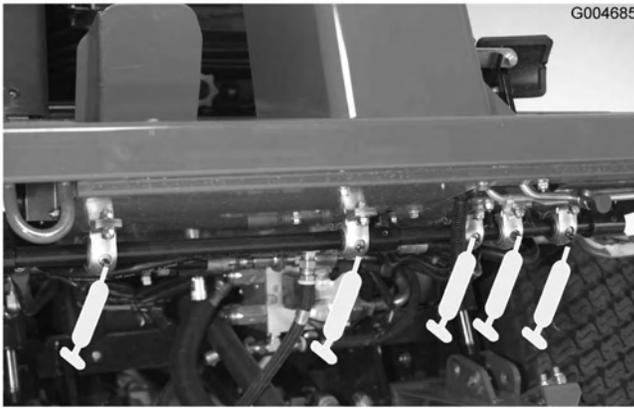

Figure 33
- Brake shaft pivot bearings (5) (Figure 33)